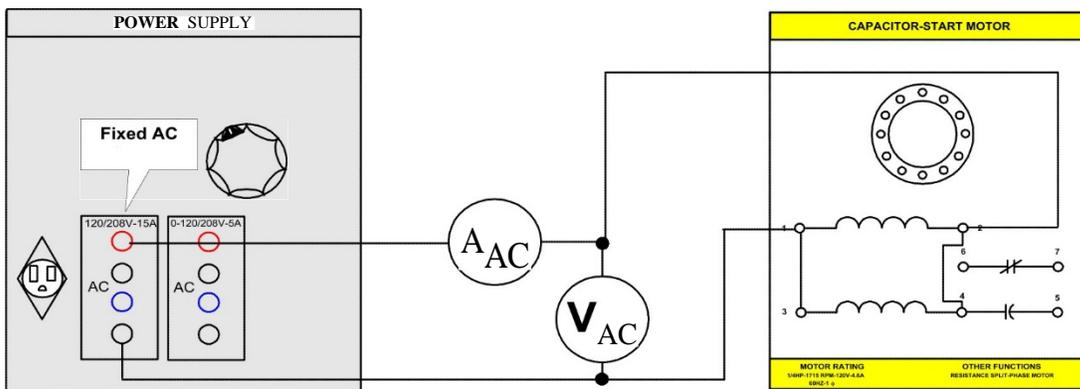

FIGURE 8.11
- Step 29. a) Connect both windings in parallel, terminals 1 to 3 and 2 to 4 as shown in Figure 8.11.